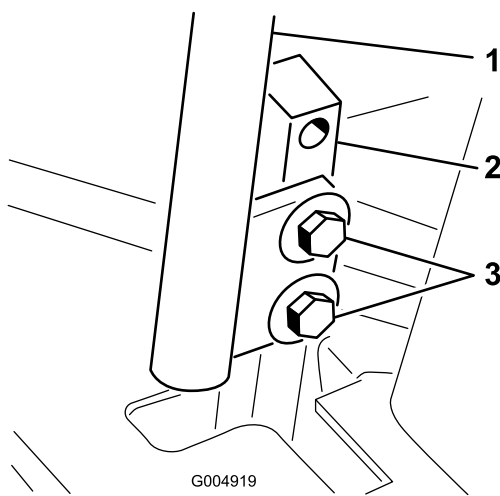

Figure 66
3. Loosen the bolts securing the control levers (Figure 66)